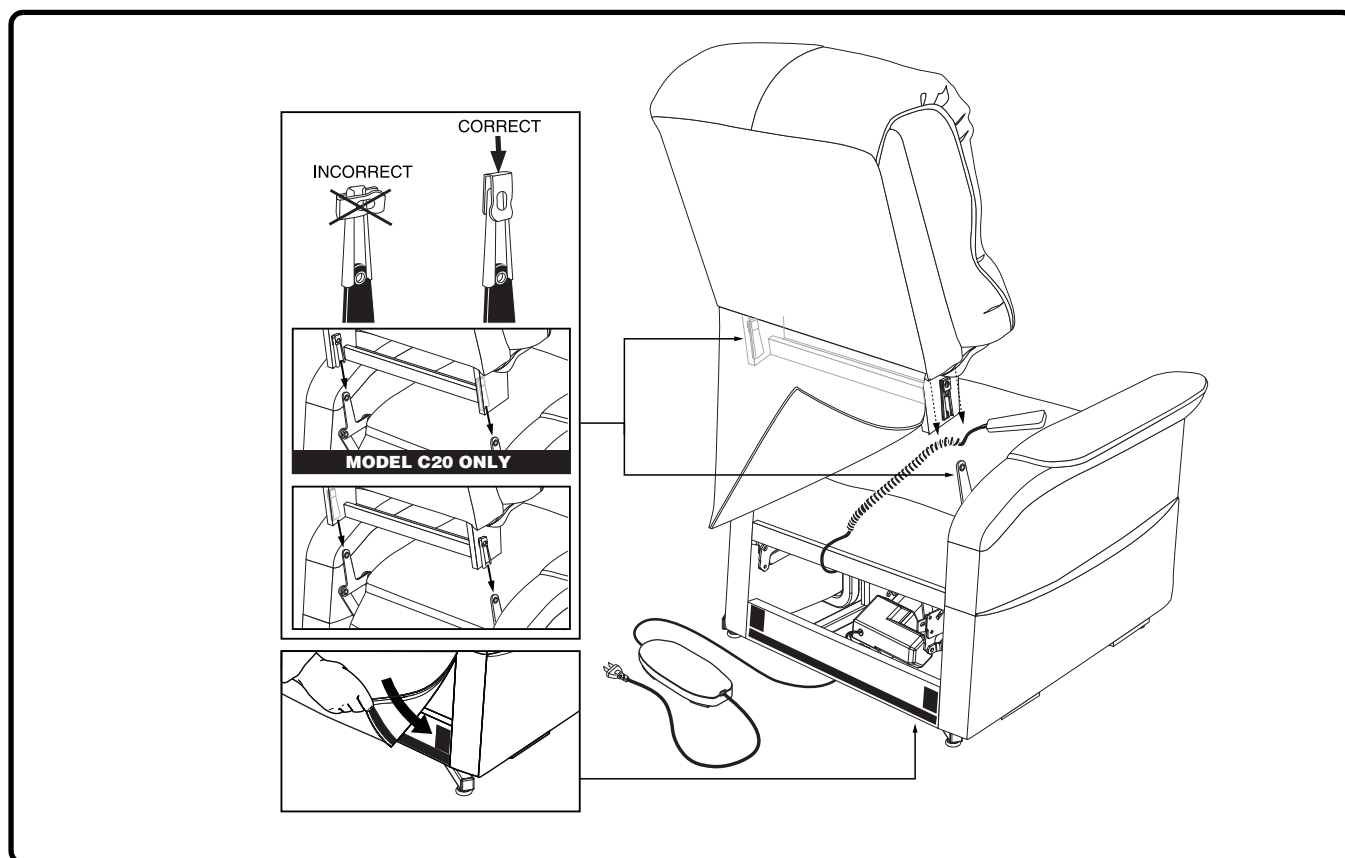

Figure 4.1 Lift Chair Assembly
**NOTE:** If your lift chair is model LC125, refer to the assembly instructions provided with the chair. For model C20, the KD sleeves are located on the inside as shown in figure 4.1.